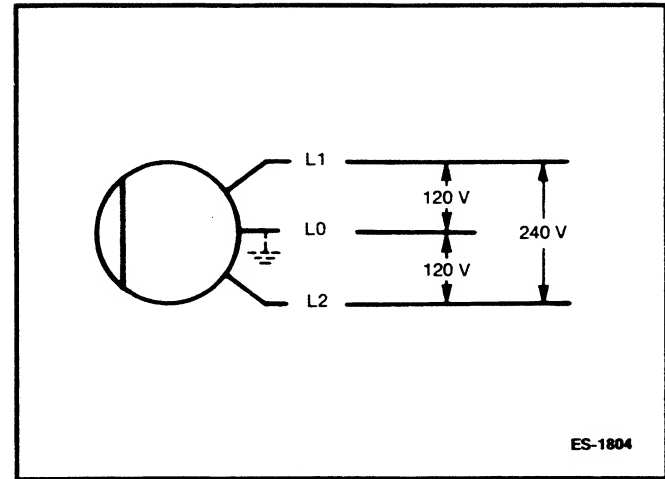

FIGURE 3-5. 120/240 VOLT, SINGLE PHASE
**Reconnectable Generators, Code J (formerly 3C or 53C):** Single phase 60 and 50 hertz generators have output leads T1, T2, T3 and T4 available for the single phase voltage and load connections shown in Figure 3-5. Output leads are shown in Figure 3-6.